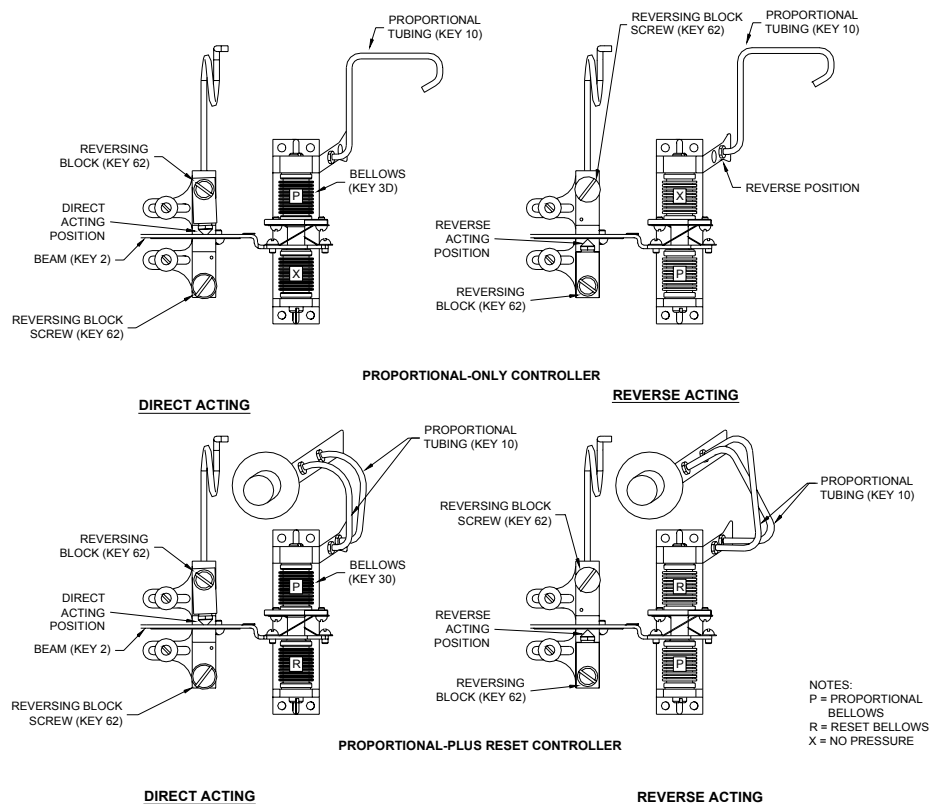

Figure 7. Direct/Reverse Acting Tubing Connections
- f. Output gauge reading should be between 8 and 10 psi. If not, adjust controller span by loosening one of the two calibration adjuster screws and move the calibration adjuster a small distance as explained below and illustrated in figure 7.